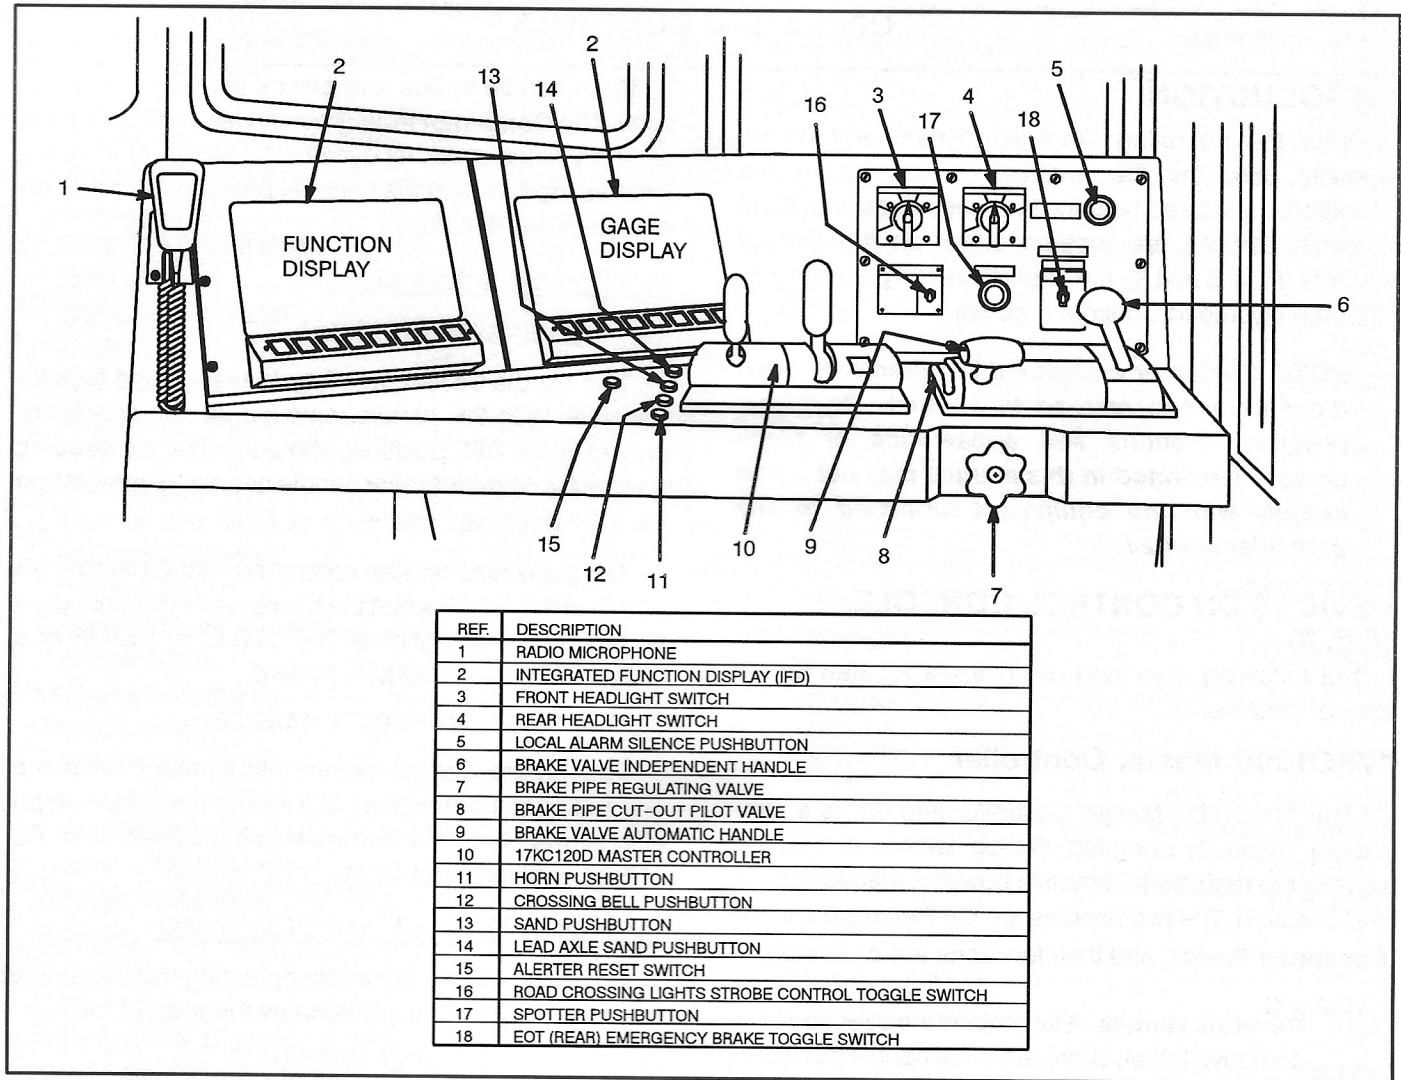

FIG. 3. CONTROL CONSOLE, TOP. E-40974.
All of the operating devices, manual and visual, normally used by the engineer during locomotive operation are located near the engineer's position. Most of these devices are located either on the Control Console (Figs. 3 and 8), the Engine Control panel (Fig. 9) or on the Overhead Console (Fig. 10).
### DEVICES ON CONTROL CONSOLE (Fig. 3)
**NOTE: Numbers in parentheses ( ) refer to items found on Fig. 3 of this publication unless noted otherwise.**